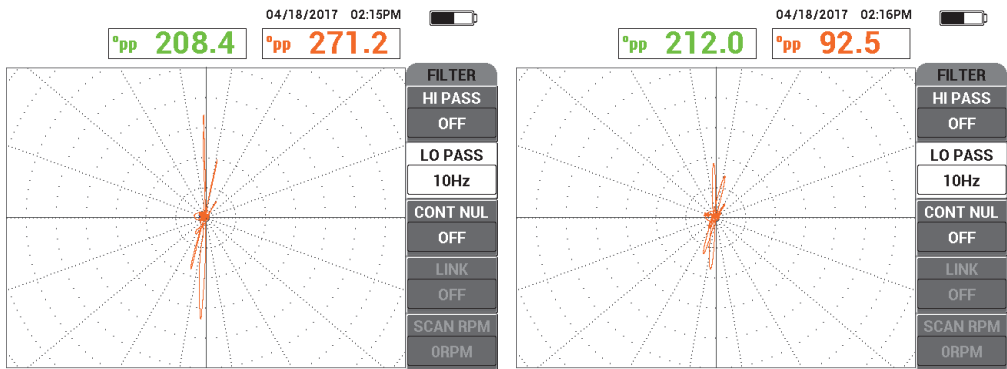

Figure 5-206 A scan with 10 Hz LO PASS filter (*left*); with scan rate too fast (*right*)
3. Scan the tube for defects (see Figure 5-206 on page 275).